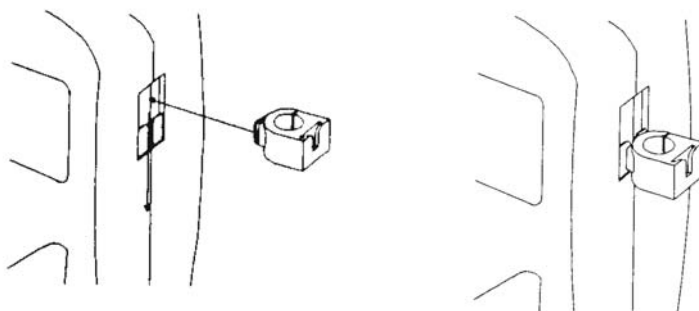

Figure 7: Insert electrode holder
2. Gently slide the flange of the holder into the slot on the meter. Make sure the holder is secured properly into the slot (Figure 7).